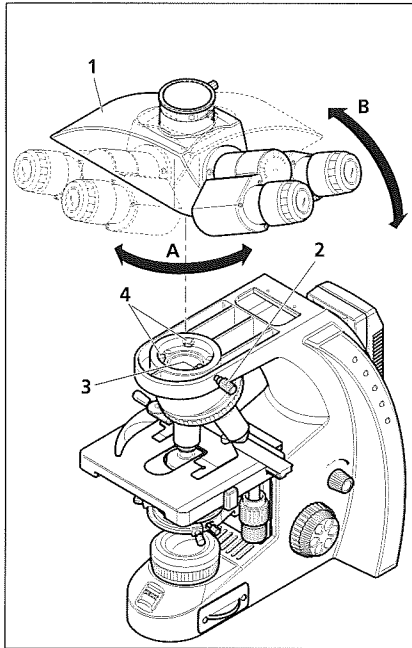

Fig. 11 Changing the tube
- Loosen clamp screw (Fig. 11/2), turn the installed tube (Fig. 11/1) clockwise by approximately 90° (Fig. 11/A) and on the right side take it off upward (Fig. 11/B).
- Insert the tube to be installed, with the eyepieces pointing to the right and its dovetail mount slightly inclined, under the two holding elements (Fig. 11/4) in the stand.
- Then, place the tube horizontally onto the stand. In doing so, the groove on the underside of the tube must be located above the third holding element (Fig. 11/3) of the stand.
- Turn the tube counterclockwise by 45° (eyepieces pointing frontward), align it to the stand and tighten clamp screw (Fig. 11/2).